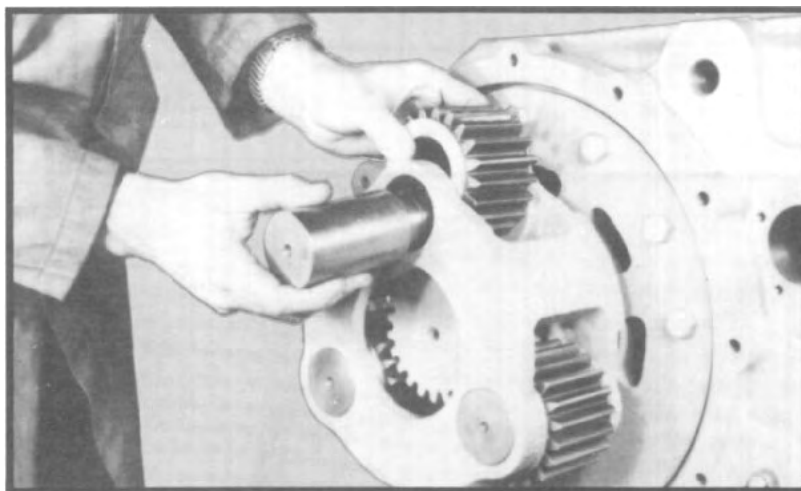

Fig. 154
3.20 Slide planet gear with needle bearings into planetary carrier, add planet pin spacers on each side of planet gear and slide planet pin through spacers and gear. Repeat procedure for remaining two planet gears. (See fig. 154.)